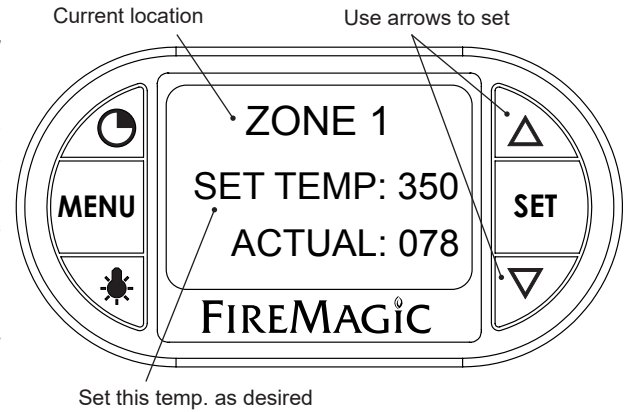

Fig. 35-1 Area temp. screen (zone 1 shown)
2. The selected location's temperature screen will be displayed. Use the arrows to set the desired temp. The actual temp. will also be shown. See Fig. 35-1.